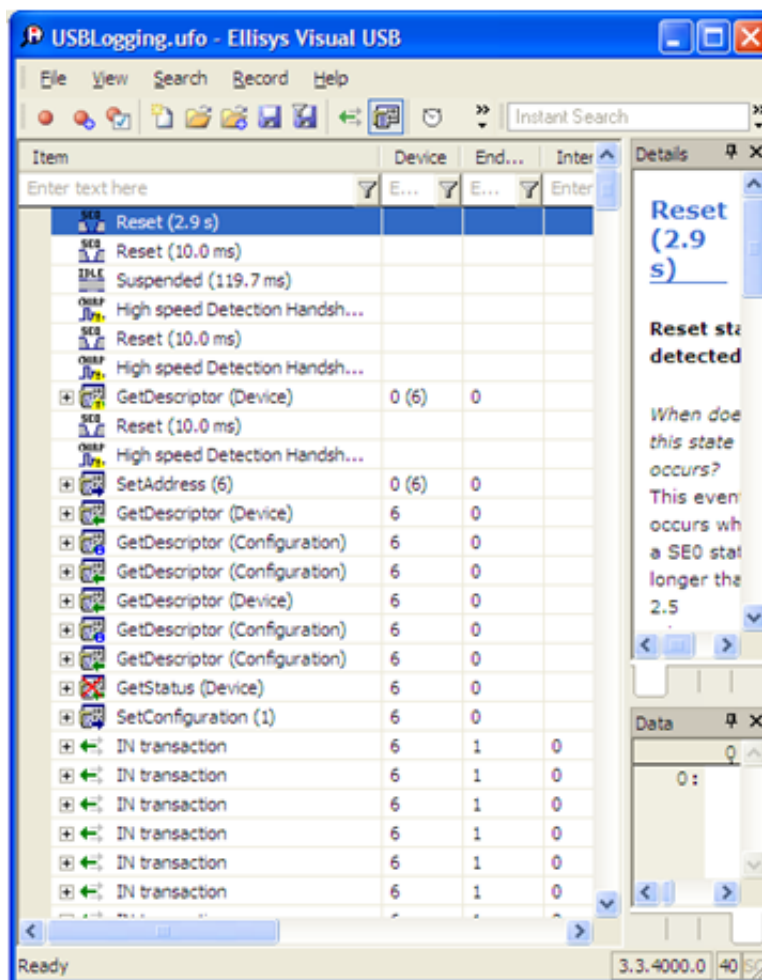

Figure 8. USB log showing USB transactions
12. Communication can be observed by using a USB packet analyzer as shown in Figure 8. USB analyzer used is Ellisys Visual USB viewer. The log file is inside “USB Log Files” folder in the AN4378SW.zip.